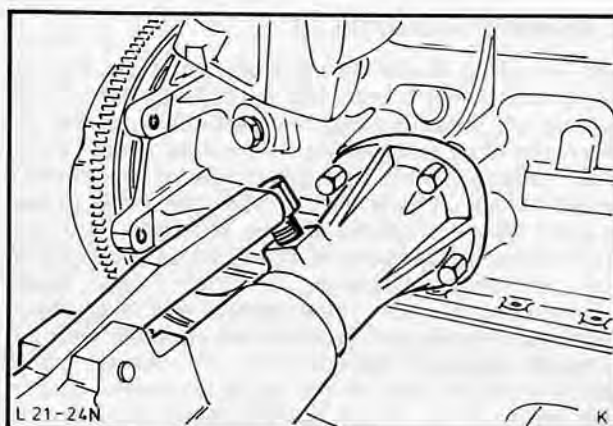

Fig. 75. Fit engine to stand using engine mounting bracket 21-031
1. Secure engine to stand by means of engine mounting bracket 21-031, Fig. 75.